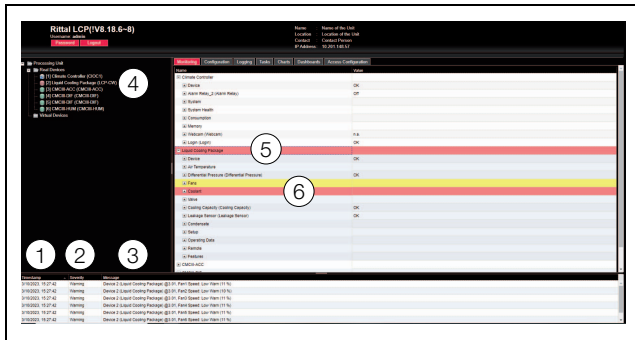

Fig. 131: Layout of message display
1. Timestamp: The date and time when the error occurred (fig. 131, item 1).
2. Severity: Severity of the error. A distinction is made between Warnings and Alarms (fig. 131, item 2).
3. Message: Error message in plain language (fig. 131, item 3).
- Left-hand screen section (navigation area): The symbol in front of the component on which the error occurred is shown in red in the tree view in the event of an alarm message, and yellow in the event of a warning message (fig. 131, item 4).
- Right-hand screen section (configuration area): On the **Monitoring** index tab, the entire component and the specific parameter to which the warning or alarm applies is shown in red or yellow (fig. 131, items 5 and 6).